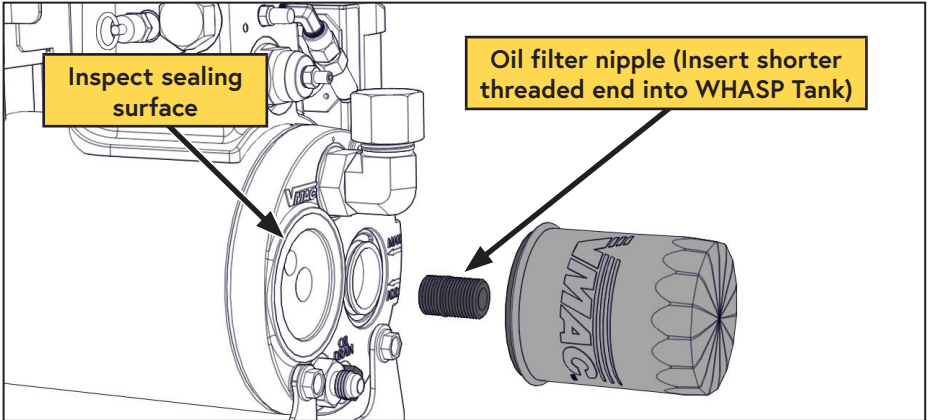

Figure 22 — Compressor oil filter
- \*To reinstall the nipple, thoroughly clean the threads and apply Loctite 242 (blue) to the end with the short threads and replace it in the tank (Figure 22).
- Clean the gasket sealing surface on the front of the tank and inspect it for damage. The surface must be free of old gasket material and smooth to ensure a good seal (Figure 22).